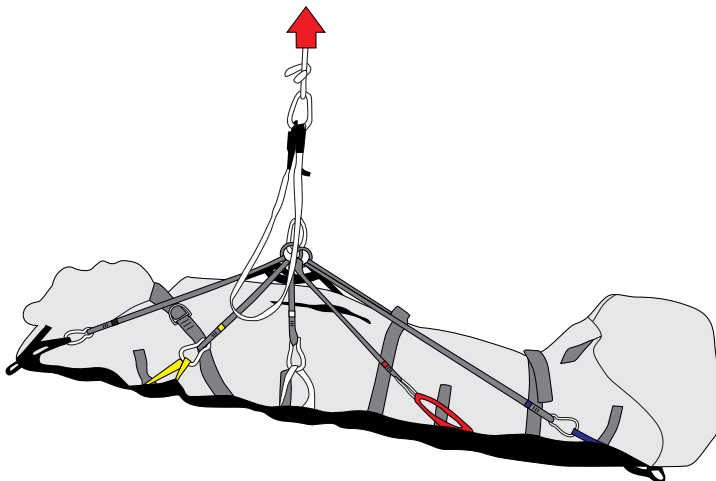

Fig.44
- screw in the connector nuts completely (fig. 44)